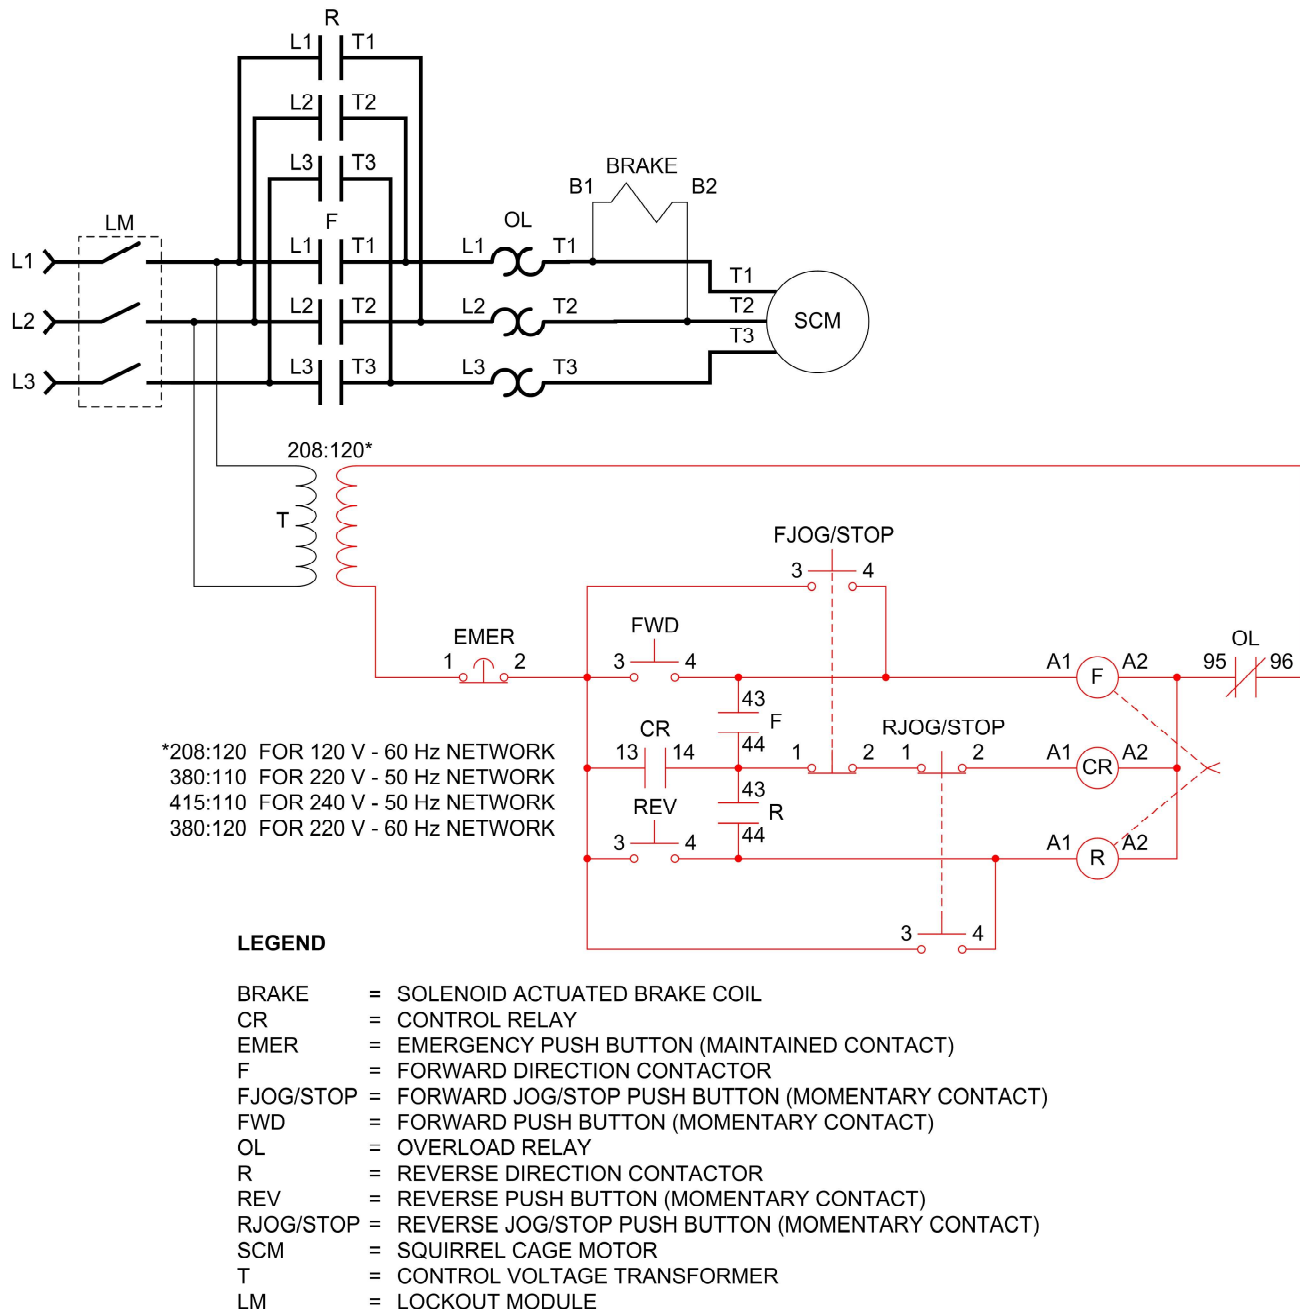
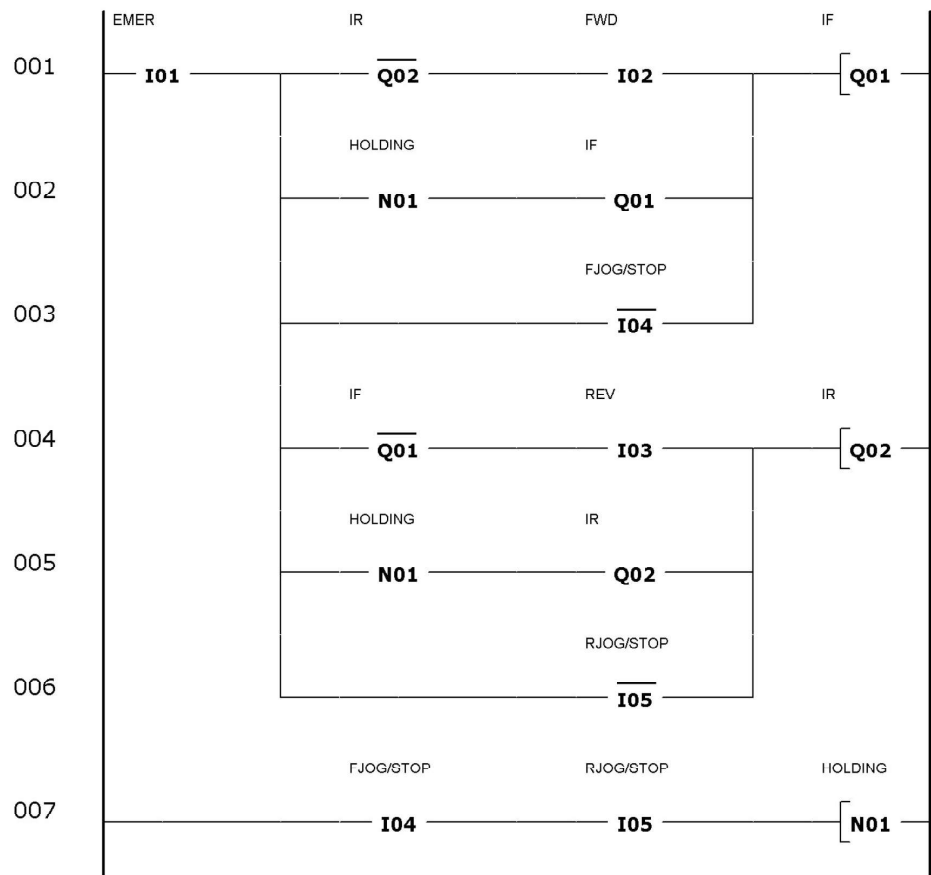

Figure 2-12. Reversing motor starter circuit with jogging.
Figure 2-13. Reversing motor starter with jogging ladder program.
Some applications, in particular in position control, require a motor to run and jog in both forward and reverse directions. To meet these requirements a jogging control circuit with a reversing motor starter can be implemented. Figure 2-12 is an example of a hardwired motor reversing circuit with jogging. This setup includes a control relay to form the holding circuits.
In this exercise, you will set up a PLC motor reversing circuit with jogging capabilities. You will test that the ladder program, shown in Figure 2-13, functions like the hardwired circuit in Figure 2-12.
Enter the ladder program shown in Figure 2-13.
- ☐ 5. Test the PLC circuit and note in Table 2-1 if it has the same characteristics as the hardwired version in Figure 2-12.
1. Which PLC programming unit in Figure 2-13 is logically equivalent to the control relay in Figure 2-12?